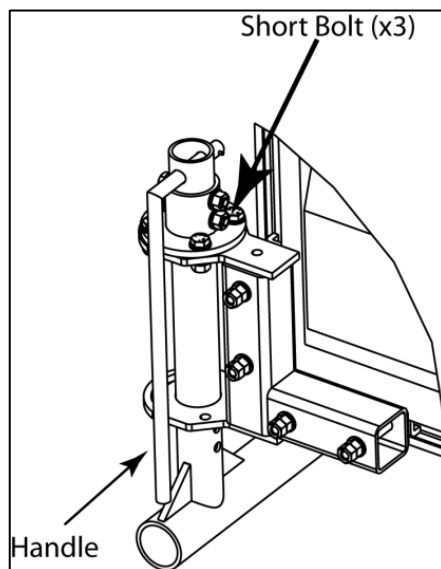

Figure 25: Elbow Assembly
1. To retract the webcam arm, remove the three short bolts from the top of the elbow assembly. Refer to **Figure 25**.